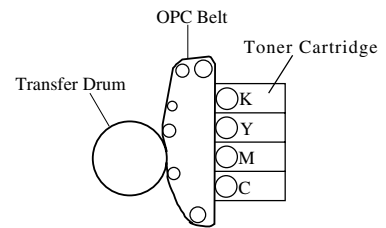

Fig. 4-3
- The printer has a yellow, magenta, cyan, and black toner cartridge (see Fig. 4-3).